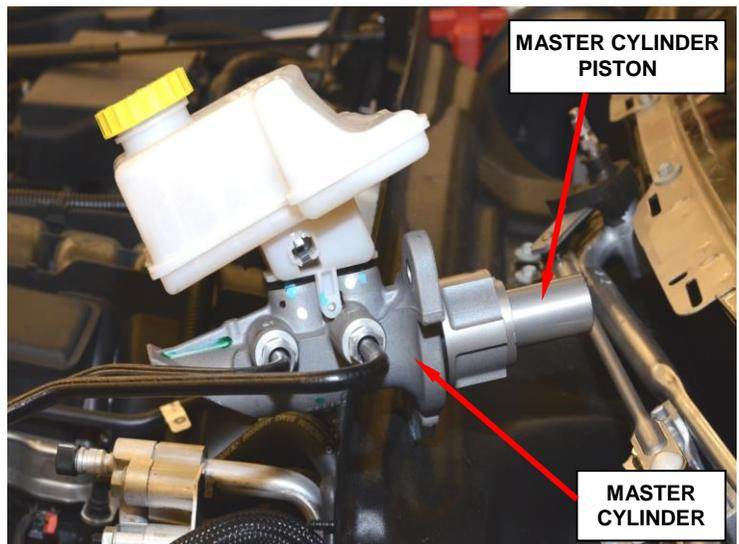

**Figure 8 – Relocate Master Cylinder**
- 17. Carefully relocate the master cylinder (Figure 8).
17. Carefully relocate the master cylinder (Figure 8).